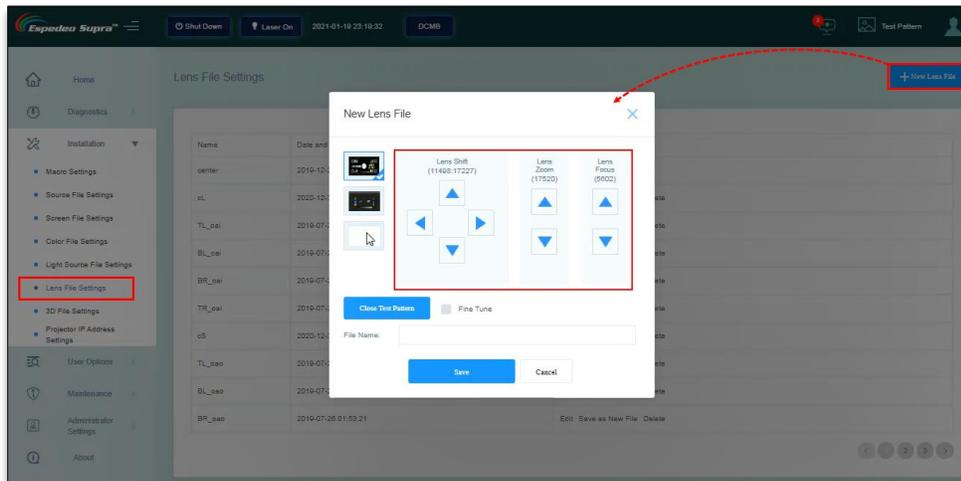

Figure 62:
- From the **Install** screen, go to **Lens File Settings** and click on **+New Lens File**. For adjusting the offset and focus, select the DCI standard test pattern image. Click the **Lens Shift Up/Down/Left/Right** buttons to adjust the offset and click the **Lens Focus Up/Down** buttons to make the image focus clear. Provide a name to the new Lens File and click on **Save**. Refer to **Figure 62**.